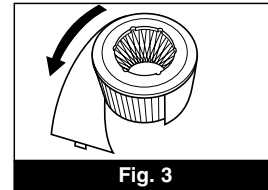

Fig. 3
**Step 7:** Carefully wrap the pre-filter around the HEPA filter so that the ends meet (Fig. 3). Fasten the ends together with the fastener provided.